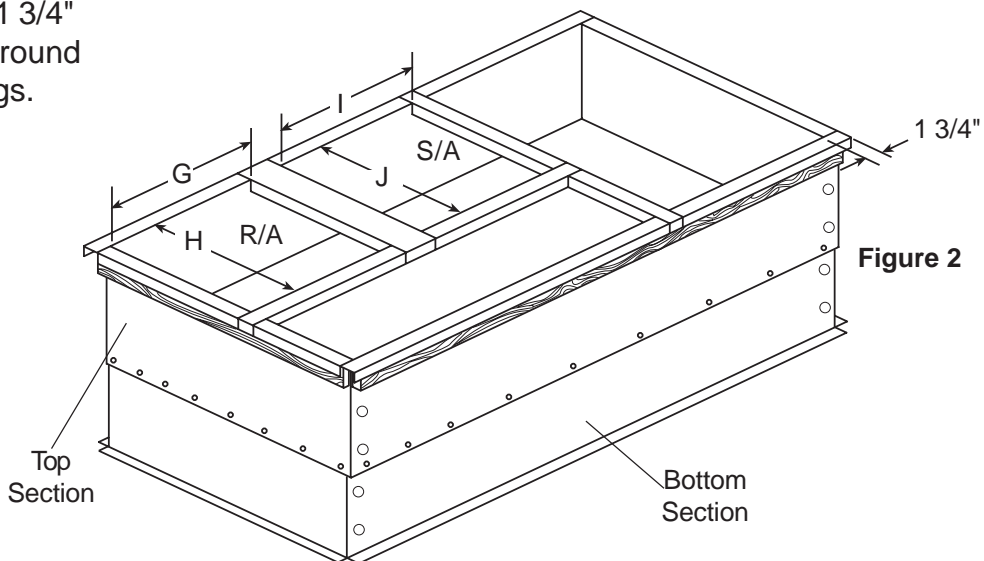

Figure 2
4. Install the duct supports to the top of the top section. See Figure 2. Gasket the top 1 3/4" perimeter and around the duct openings.